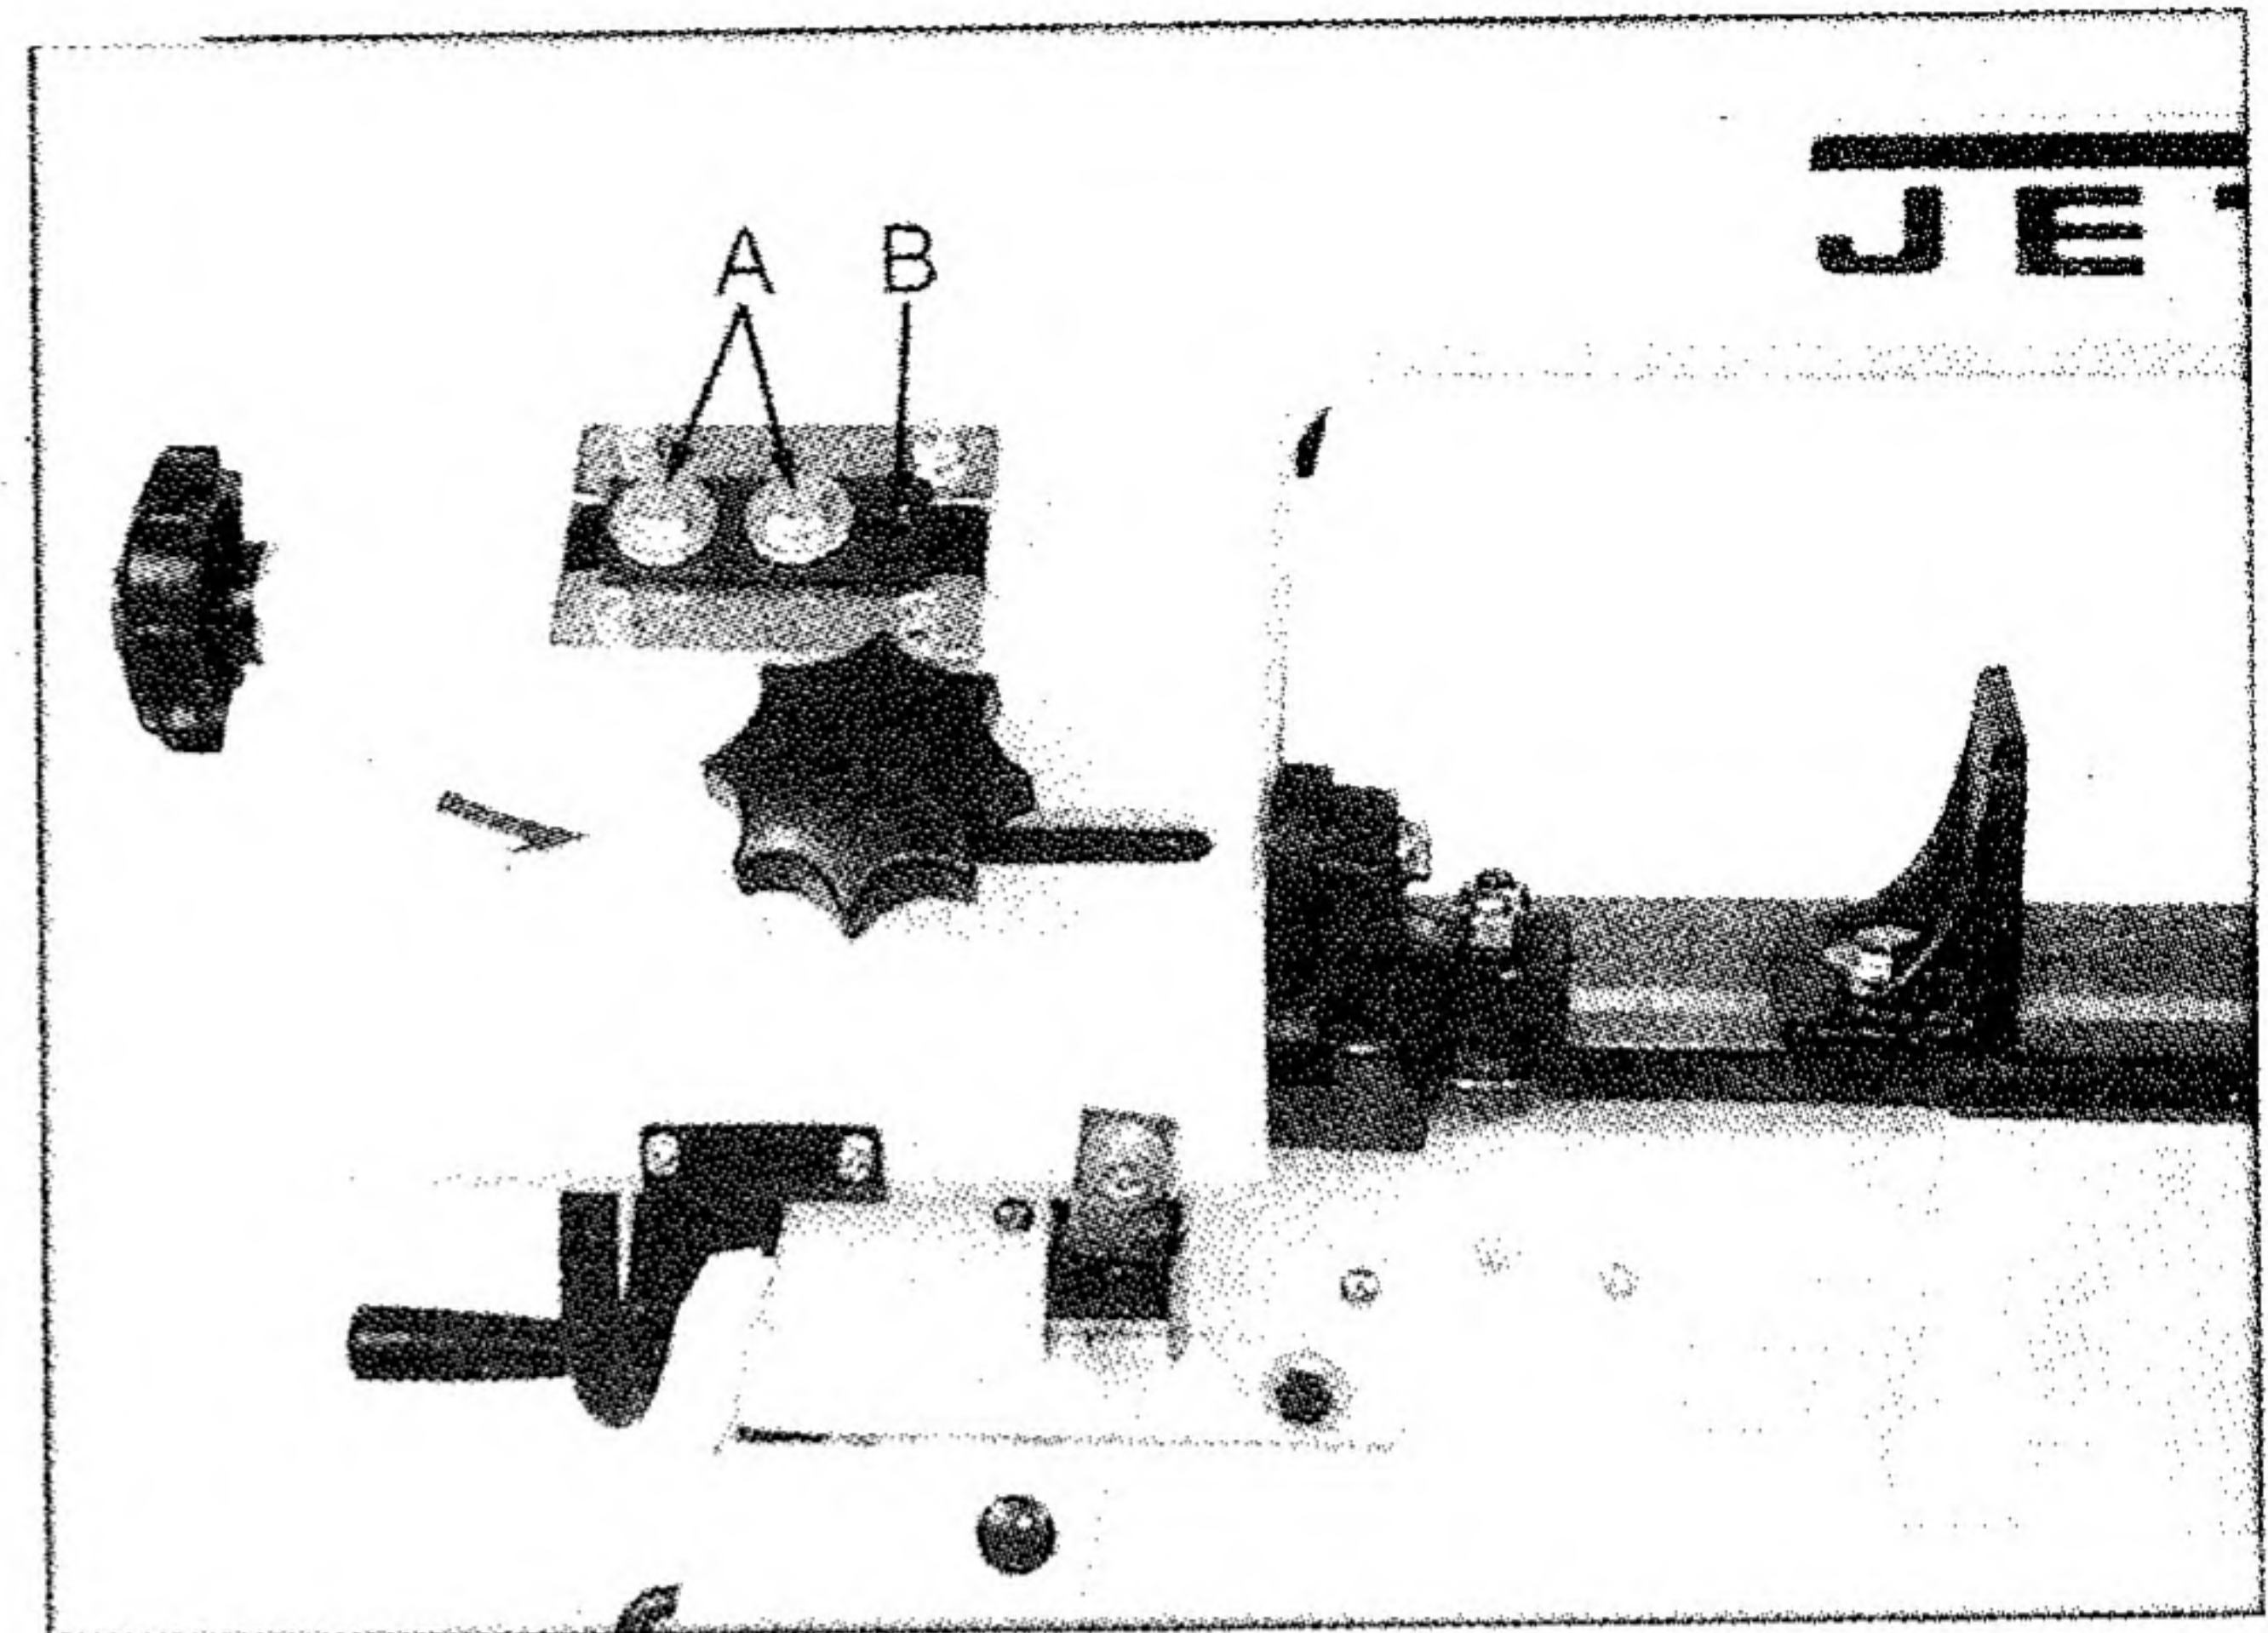

Fig. 15
7. Loosen bolts (A, Fig. 15).
8. Turn set screw (B, Fig. 15) while observing blade tracking on wheel. Turn set screw clockwise to track closer to wheel flange. Turn set screw counter-clockwise to track away from the wheel flange. **Hint:** start with $\frac{1}{4}$ turns on the set screw. The tracking is sensitive.
9. Once tracking is set, tighten bolts (A, Fig. 15).